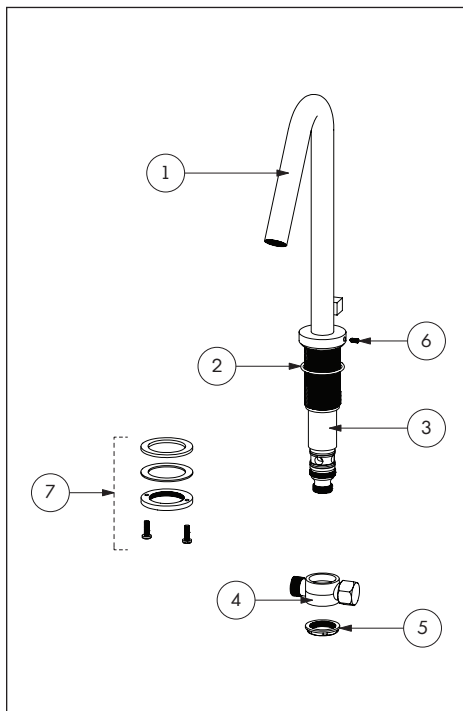

Fig.1
Remove the "T" joint (4) by removing the retaining ring (5). Assemble the spout (1) to the base (3) by tightening the retaining screw (6). Prepare the retaining assembly (7). Place the O ring (2). Fig. 1.
Retirer le joint en "T" (4) en dévissant l'anneau de retenue (5). Assembler le bec (1) à la base (3) en serrant la vis de retenue (6). Préparer l'ensemble de rétention (7). Placer le joint torique (2). Fig. 1.